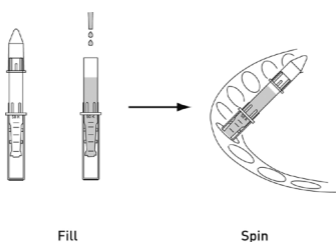

Figure 3. Use of the Antibody concentrator (2 ml, 50K).
- 3.1 Remove the conical collection tube from the antibody concentrator as shown in Figure 3.
- 3.4 Add 1.6 ml of 1× TBS and 400 µl of the azide-activated antibody from step 2.5 to the antibody concentrator (*Fig. 3*).